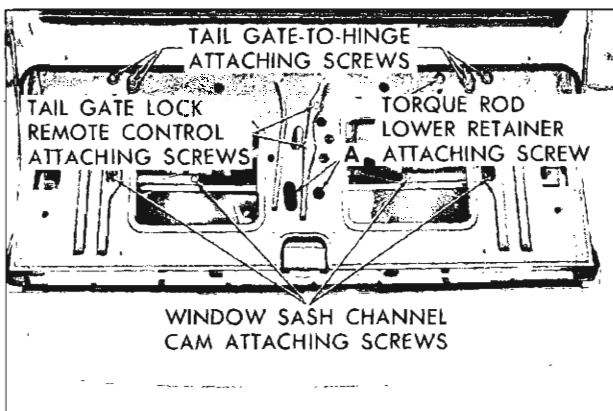

Fig. 83—Tail Gate Hardware
8. With the aid of a helper remove tail gate to hinge attaching screws (fig. 83) from both hinges and remove tail gate assembly from body.
To adjust the tail gate assembly "up or down" sideways in the body opening loosen the tail gate to hinge attaching screws (fig. 83); shift tail gate to desired position and retighten screws.
4. Remove torque rod lower retainer attaching screw (fig. 83) and remove retainer.
5. Remove remote control assembly attaching screws (fig. 83) and lay remote control assembly on tail gate window.
2. Detach tail gate inner panel water deflector sufficiently to gain access to window lower sash channel attaching bolts (fig. 83). Remove tail gate inner panel access hole covers.
3. Carefully operate window upward until the window lower sash right and left cam attaching bolts are accessible through access holes (fig. 83).
4. Remove window lower sash channel right and left cam attaching bolts (fig. 83) and disengage cams from window lower sash channel. Remove window assembly from tail gate.
NOTE: To open the tail gate on styles with electric windows when window assembly is removed, depress tail gate lock remote control locking lever through access hole at location "A," (fig. 83) and at the same time operate the tail gate remote control inside handle.